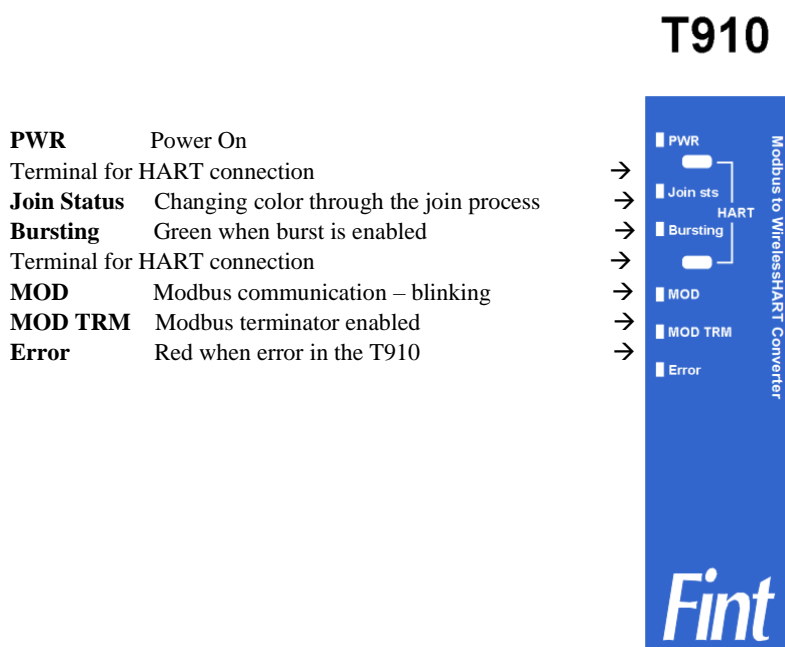

Figure 5: Front Label mounted on T910, showing the LED functions and connection for the HART configurator
There are 6 LEDs on the front, see Figure 5. One for Power ON, One for Modbus Termination ON/OFF, one for Join status, one for Bursting activity, one for the Modbus communication and one for Error status. The communication LEDs are bicolor. One color is blinking on request telegrams and the other on responding telegrams. A slow blink in one of the Modbus LED indicates that there is no Modbus communication. The blinking frequency is determined by the configured time-out time on Modbus.
- A powered T910 and both of the terminals of the HART modem connected to one of the H+ and H- connections of the T910 (see Figure 5, T910 Front panel). Polarity is not an issue.